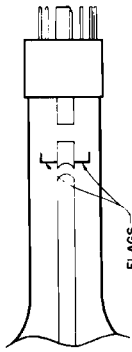

FIGURE 7 - ION TRAP FLAGS
- Turn the ion trap magnet control until the ion trap magnet is approximately over the ion trap magnet as shown in Figure 7. Starting from this position adjust the ion trap magnet by moving it forward and backward, at the same time rotating it slightly around the neck of the tube for the brightest raster on the screen.